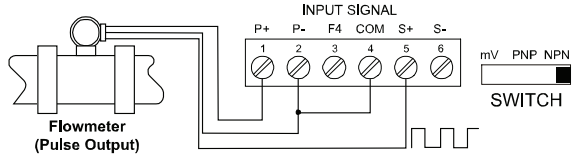

Figure 7: Flowmeter Powered by Internal Power Supply
Signal connections are made to a six-terminal connector labeled SIGNAL on Figure 7. The COM (common) terminal is the return for the input signals.
Serial communications connection is made to an RJ45 connector labeled M-LINK on Figure 7. Use the PDA1232 for RS-232 interfacing or the PDA1485 for RS-485 interfacing. The same port is used for interfacing with all expansion modules (e.g. external relays, digital I/O).
Relay connections are made to two six-terminal connectors labeled RELAY1 – RELAY4 on Figure 7. Each relay's C terminal is common only to the normally open (NO) and normally closed (NC) contacts of the corresponding relay. The relays' C terminals should not be confused with the COM (common) terminal of the INPUT SIGNAL connector.